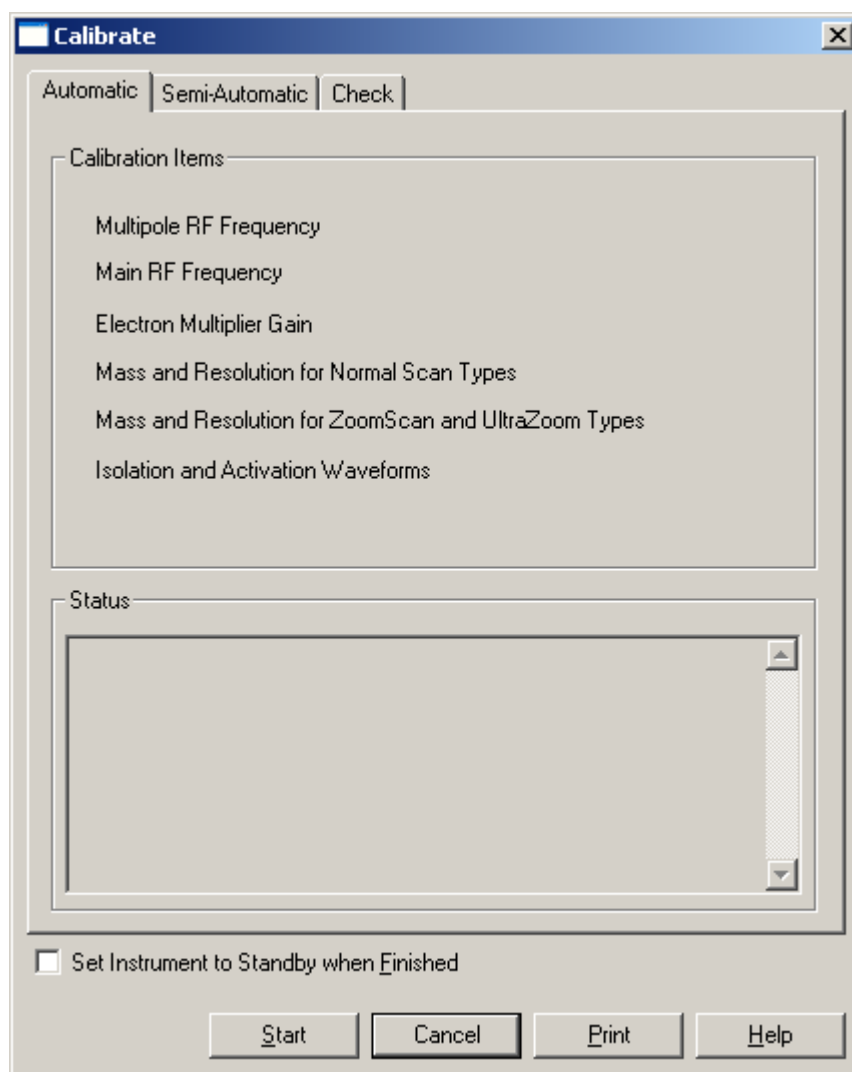

Figure 28. Calibrate dialog box, showing the Automatic calibration page
2. If necessary, click on the Automatic tab to display the Automatic calibration page. See Figure 28.